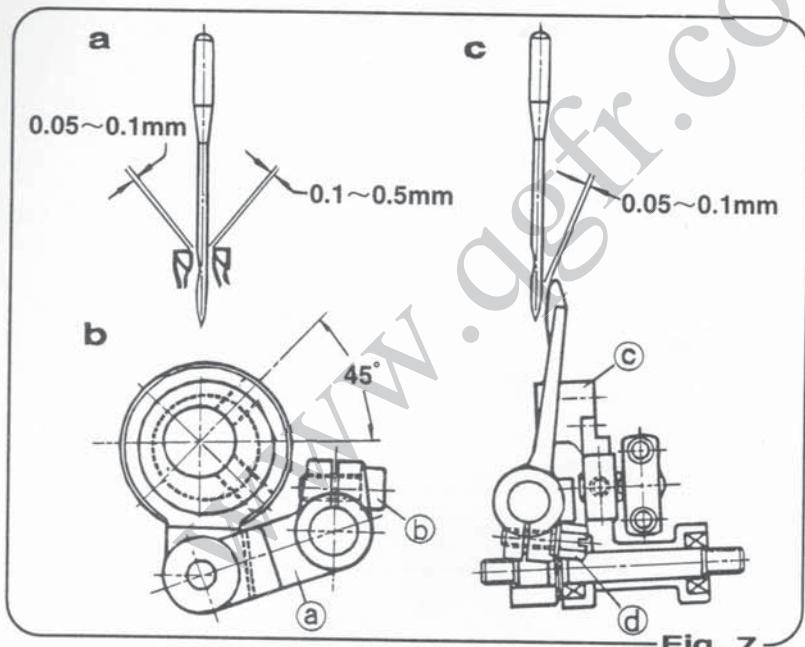

Fig. 7
Adjust the clearance between the needle and the looper to between 0.05~0.1mm when the needle goes forward and passes the rear of the needle. To obtain the correct clearance, loosen the screw ⑥ of the looper rocker frame ② and incline ③ the looper rocker. Adjust the clearance of the needle and looper to between 0.1~0.5mm when the looper moves forward to the right at the closest point to the needle. (Fig.7-a)
To facilitate the adjustment first adjust the looper avoid eccentric cam so that its screw is 45° to center of the main shaft. (Fig.7-b)
Loosen set screw ④ and adjust the clearance of the needle and looper retainer to between 0.05~0.1mm as the needle goes up. (Fig.7-c)
\* 其次，钩针从前进转向右边后退时，钩针通过针之凹弧处，这时两部件间隙必须接近于0.1~0.5mm如图示(图7-a)。
\* 钩针摇动(#303061)降下位置，钩针倒偏心器(#303072)螺钉为了保持45角度，暂系偏心器后进行细微调整(图7-b)。
针和钩针导部间隙需要调整。针从最低地点转上升时，针和钩针导部相隔必须保持0.05~0.1mm调整这间隙(图7-C)。